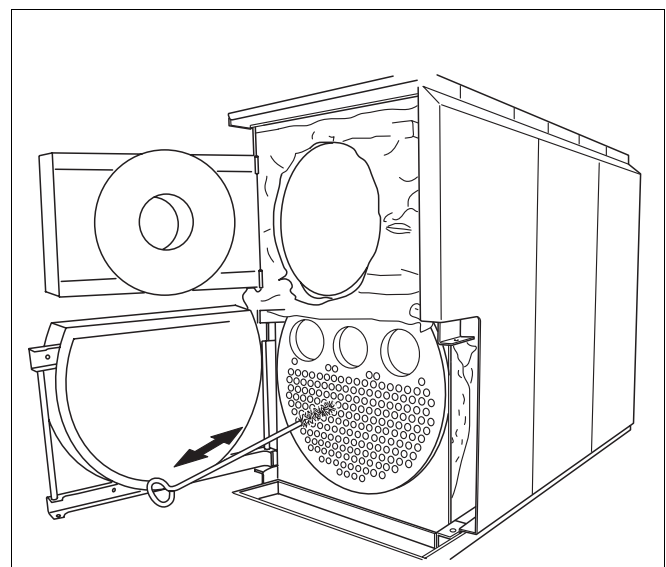

Fig. 30 Cleaning the secondary and third firetubes
- Brush out the secondary and third firetubes (Fig. 30).